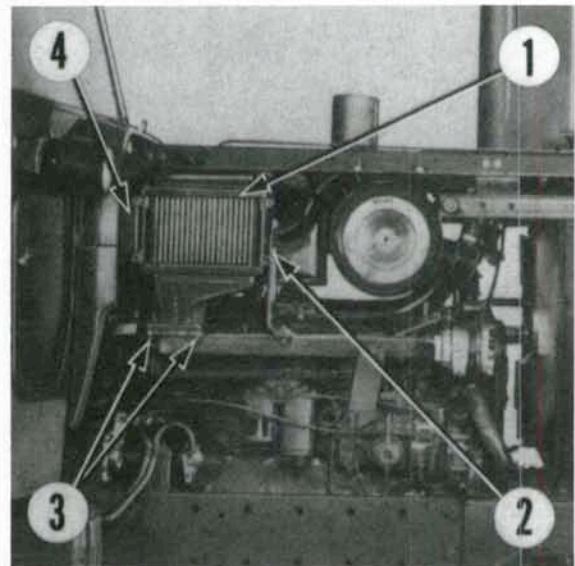

Fig. 136—View of intercooler core installed on the engine.
**89. HEAT EXCHANGER.** General maintenance may be performed with heat exchanger (1—Fig. 136) on the engine. Tip turbine fan must be removed for inspection of fan side of heat exchanger. Clean dirt from face of heat exchanger using compressed air or steam cleaner through opening for tip turbine fan.